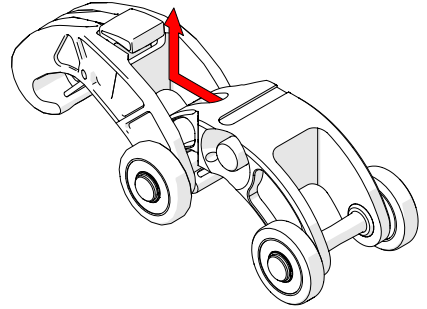

Fig. 69 - Slide link forward and lift
2. While pressing the red button, slide the red dovetail link forward and up, clearing the hook of the red dovetail link from the 2nd chain link's axle (*Fig. 69*).